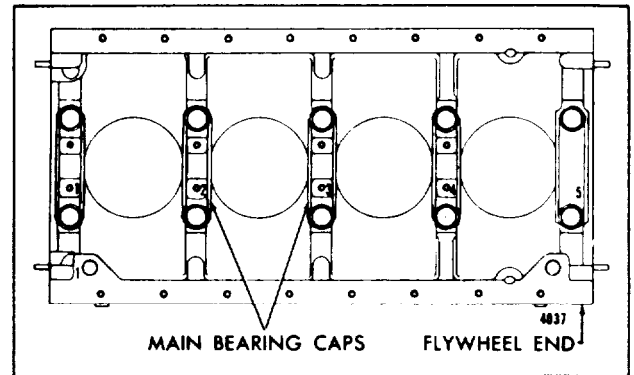

Fig. 14 - Typical Cylinder Block Markings
**NOTE:** Bearing caps are numbered to correspond with their respective positions in the cylinder block. It is imperative that the bearing caps are reinstalled in their original positions to maintain the main bearing bore alignment. The number of the front main bearing cap is also stamped on the face of the oil pan mounting flange of the cylinder block, adjacent to its permanent location in the engine as established at the time of manufacture. The No. 1 main bearing cap is always located at the end opposite the flywheel end of the cylinder block (Fig. 14).
Also stamp the position numbers on the main bearing caps (Fig 14) and the position of the No. 1 bearing on the oil pan mounting flange of the block.